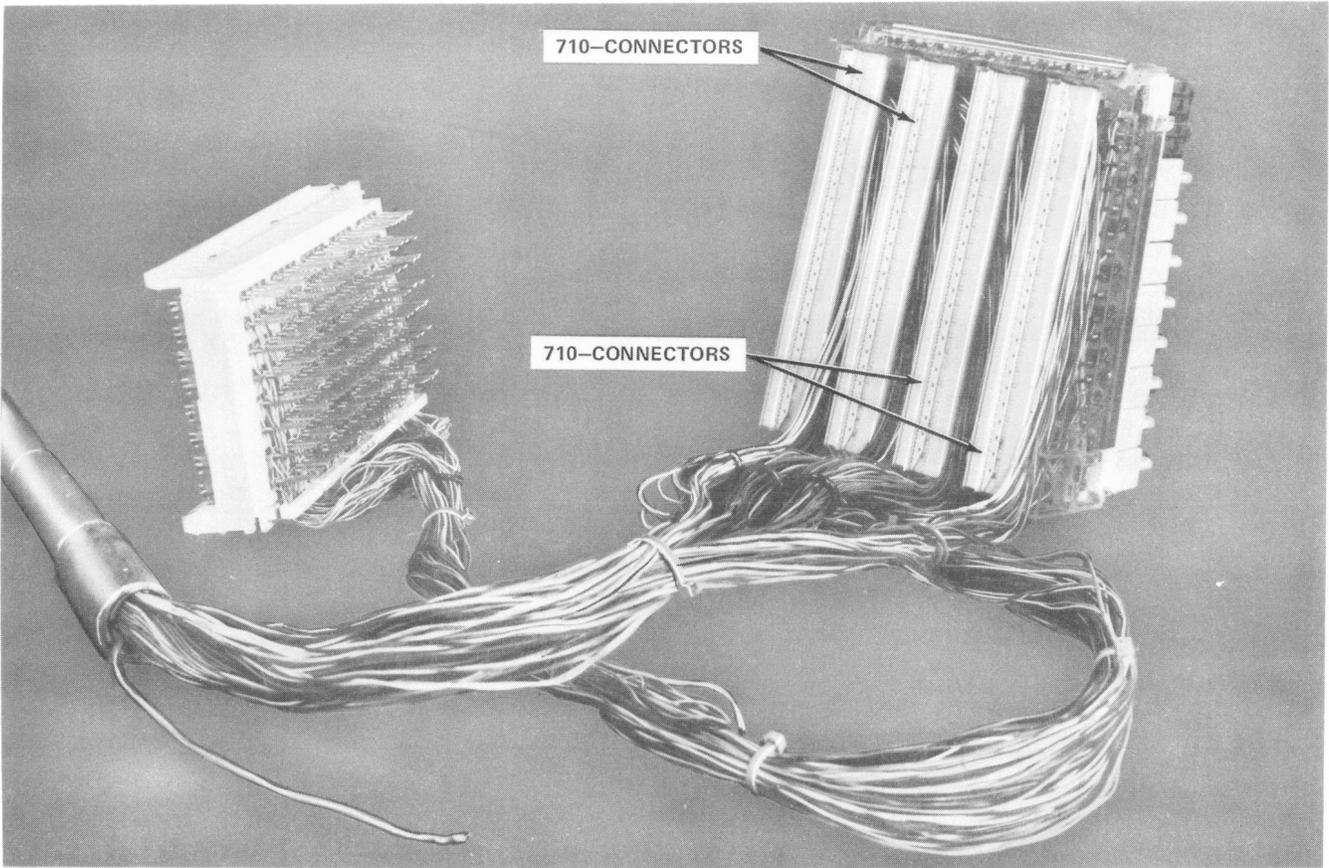
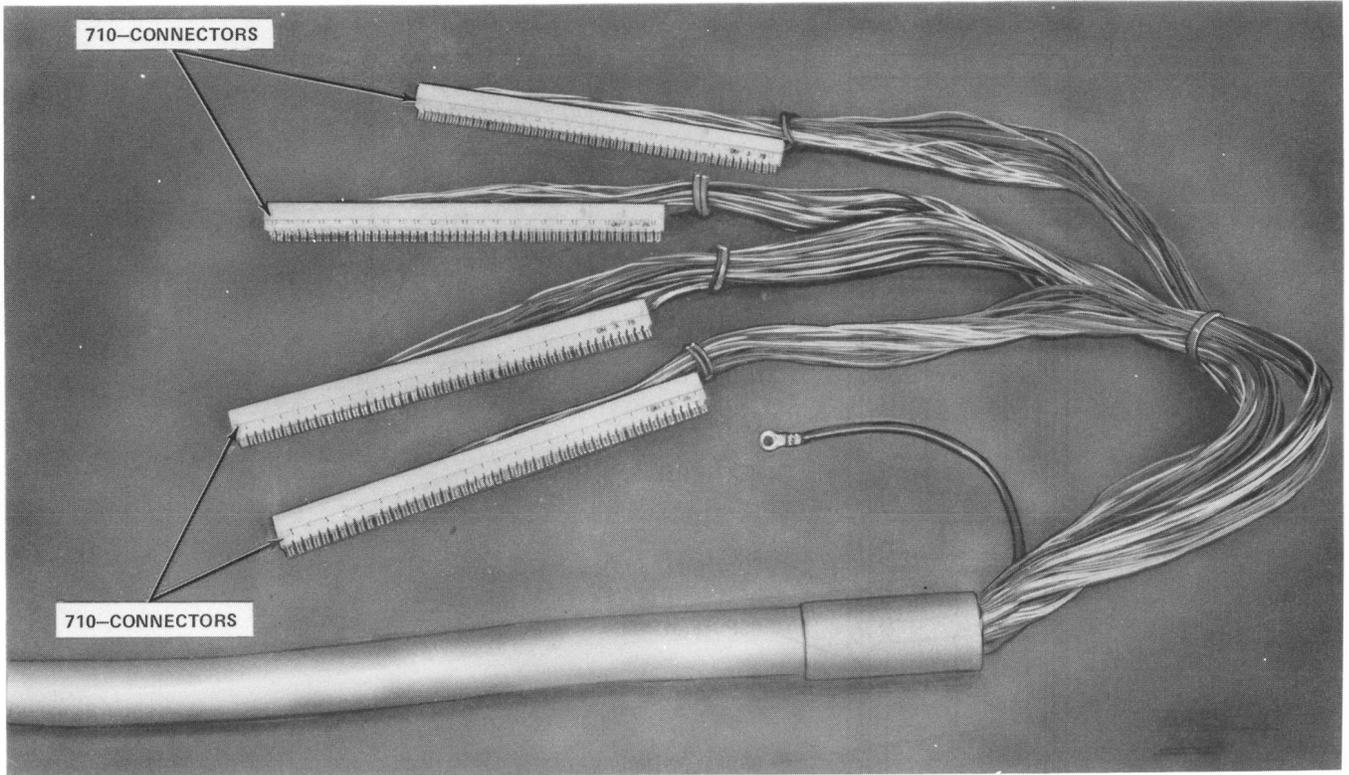

Fig. 5—710-SD25 Connector
Fig. 6—11CA and 11DA Stub Cables
2.02 The 307A1-100 and 307B1-100 both have additional backplane wiring which interconnects the protector panel to four 710-fire-retardent connectors (Fig. 5). The four 710-connectors are rigidly held in a plastic bracket which is attached to the rear of the protector panel. These connectors provide for rapid connectorized 11C or 11D cable stubs equipped with mating 710-bridge modules (Fig. 6).
3.01 Stub cables, 11C or 11D, are used with 307-type connectors; the codes, identification, and lengths are given in Table A. These stubs are made up with 22- or 24-gauge tinned copper and insulated with color-coded PVC. One end of the stub is terminated with four 710-bridge modules (Fig. 6) in 25 pair groups. Each connector is protected by an individual plastic cover. These covers should not be removed until the cable has been installed in the framework and connection of